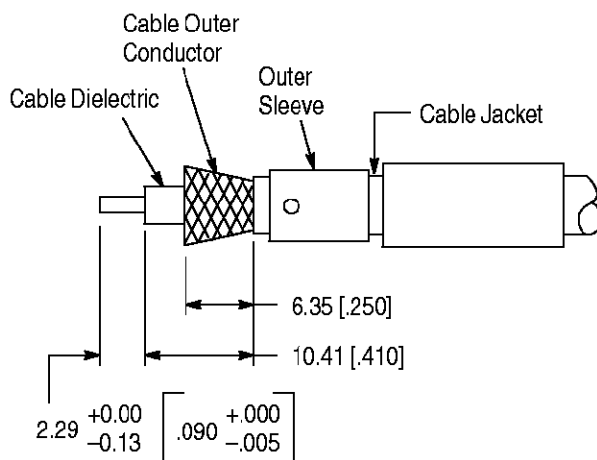

Figure 3
3.1. Preparing the Coaxial Cable End (Figure 3)